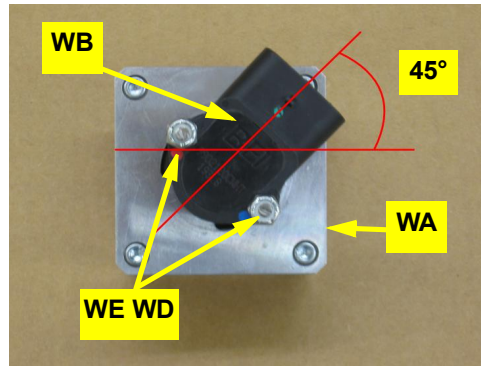

Figure 1a: Prepared WAS housing/connector
- a. Using the provided hardware **WE** (nuts) and **WD** (bolts - not shown), attach the WAS wire connector **WB** to the WAS housing **WA**. Install the bolts up through the bottom of the housing. The WAS wire connector **WB** can be mounted 45° to any of the WAS housing **WA** sides (Figure 1a).